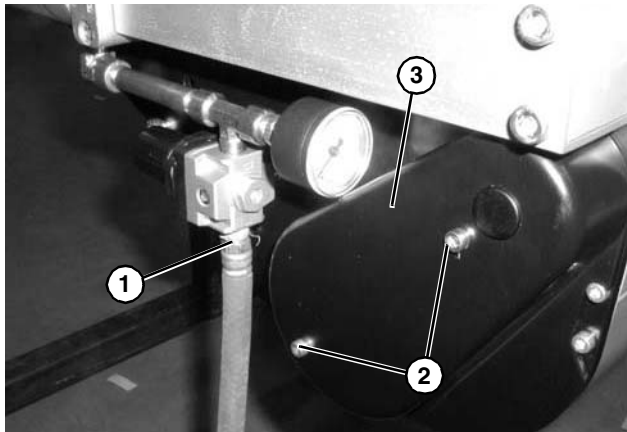

Figure 91
1. Remove air supply (**Figure 91, item 1**) from center drive module.
2. Remove screws (**Figure 91, item 2**) and cover (**Figure 91, item 3**).
8. Reinstall cover (**Figure 91, item 3**). Tighten screws (**Figure 91, item 2**) to 69 in-lbs (8 N-m).